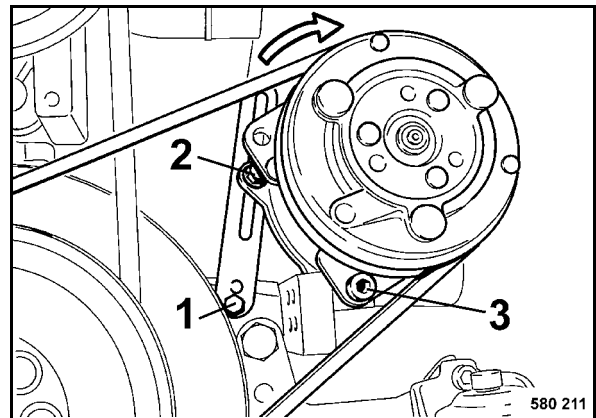

Fig. 136
- Slightly slacken fastening screws 1, 2 and 3 (Fig. 136).